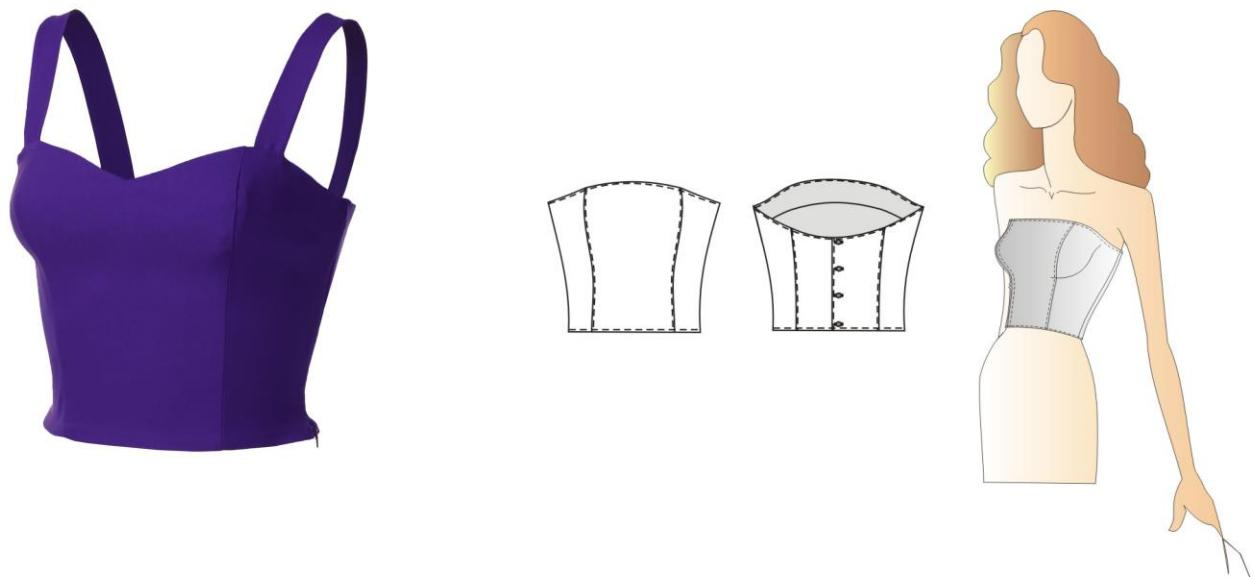

Figura 25 – Modelos de *Bustiê*.
14.1 - *BUSTIÊ* TOMARA-QUE-CAIA OU COM ALÇA (FIGURA 25)